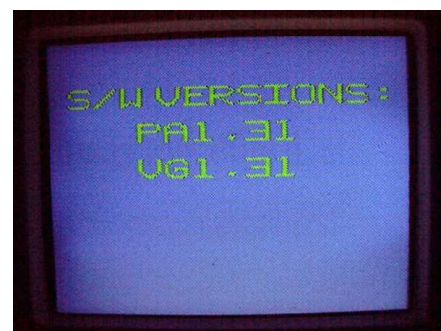

Figure 2-11- Software Version Display
- Hold the **DOWN** button until the SOFTWARE VERSION appears on the screen (Figure 2-11).